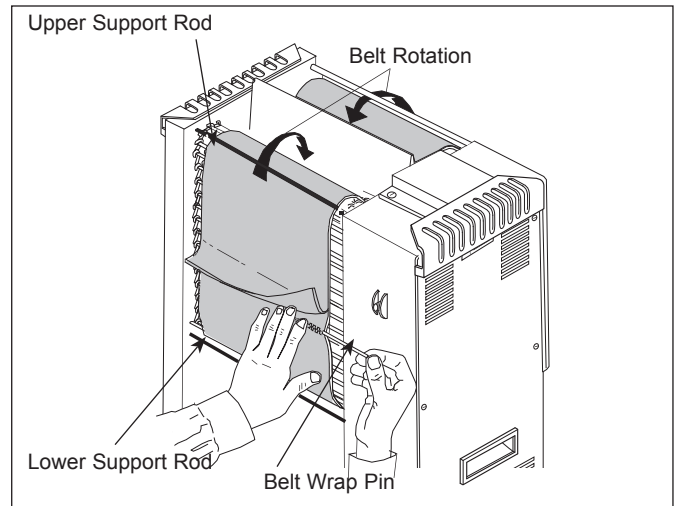

Figure 10. Replacing Belt Wrap
2. Put on Heat Resistant Gloves and remove the Bun Feeder and Bun Chute (Figure 10). Wash them at the sink and allow to air dry.
5. Lift the flap on the Belt Wrap and remove the Belt Wrap Pin (Figure 10).
8. Install the new Belt Wraps with the Hinge Flap hanging down (Figure 10).